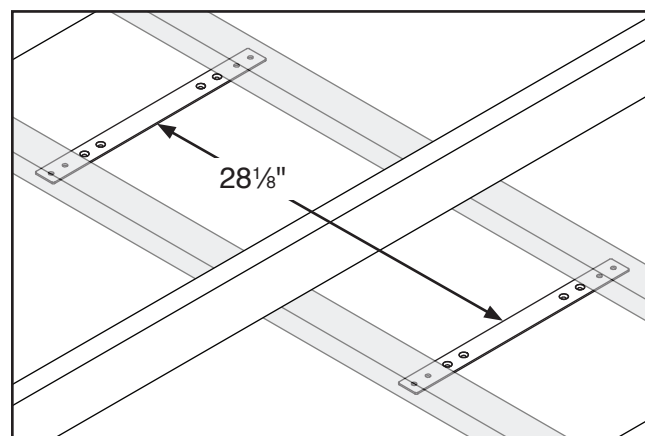

Figure 28. Undermounting brackets against mounting boards (mounting boards greyed out for clarity).
2. Place (2) undermounting brackets against underside of mounting boards at intended mounting location, then use outer holes to mark (8) mounting locations. Brackets should have $28\frac{1}{8}$ " between their entire length, as shown in **Figure 28**.